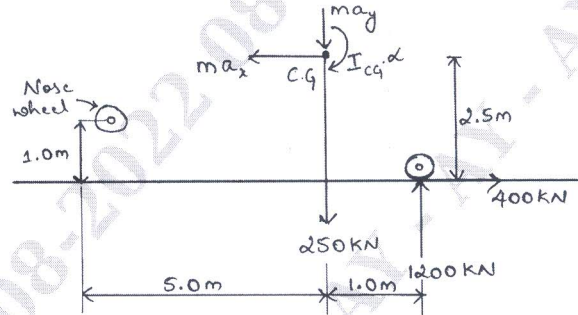

Fig. Q5 (b)
- b. An aircraft having a weight of 250 kN and a tricycle undercarriage, lands at a vertical velocity of 3.7 m/s, such that the vertical and horizontal reaction on the main wheels are 1200 kN and 400 kN respectively. At this instant the nose wheel is 1.0 m from the ground as shown in the Fig. Q5 (b) The moment of inertia of the aircraft about its CG is $5.65 \times 10^8 \text{ NS}^2 \text{ mm}$. Determine the inertia forces on the aircraft, time taken for its vertical velocity to become zero and its angular velocity at this instant.